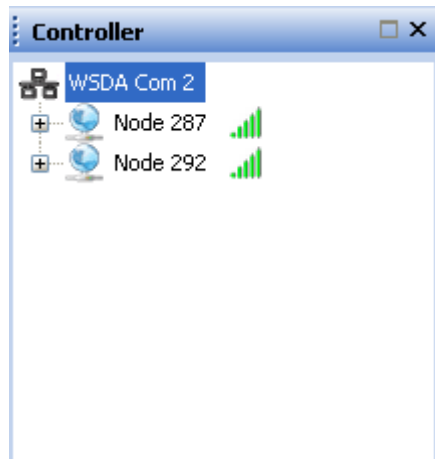

Figure 21. Node Commander Controller frame
4. Launch the Node Commander[®] software and the Main screen will appear. The WSDA[®]-1000 will now be found and reported in the 'Controller' frame (on the left hand side of the Main screen) as WSDA Com X. The example in *Figure 21* shows the WSDA[®]-1000 open on Com 2.